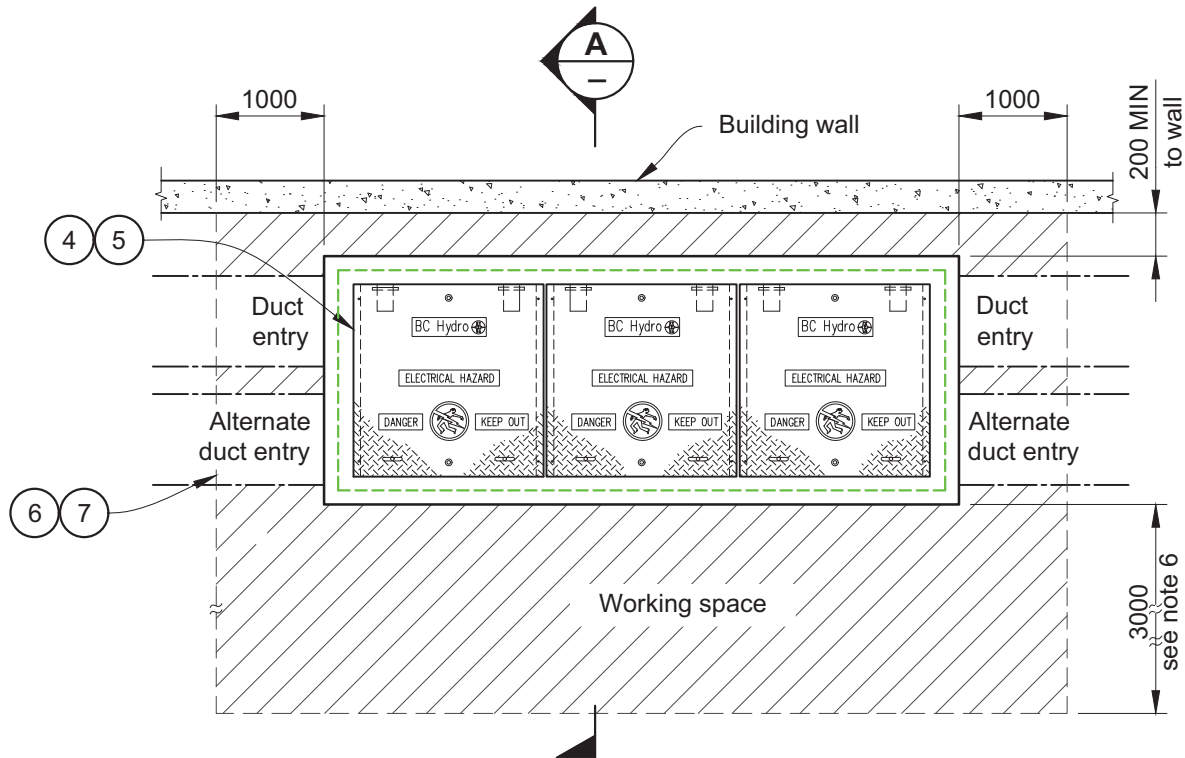

Figure 2 – Plan view
5. "Alternate duct entry" area shown in Figure 2 is permitted for junction boxes, though "duct entry" area is preferred. See ES54 B0-02.